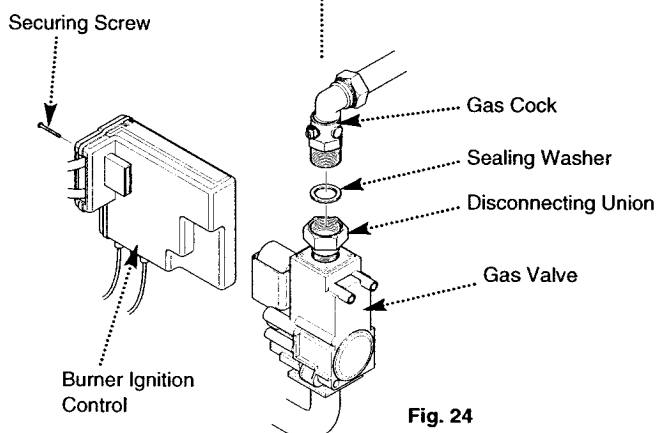

Fig. 24
8. Undo the disconnecting union on the gas inlet. Remove the screw securing the burner ignition control to the gas valve. Draw the control off the valve (Fig. 24).